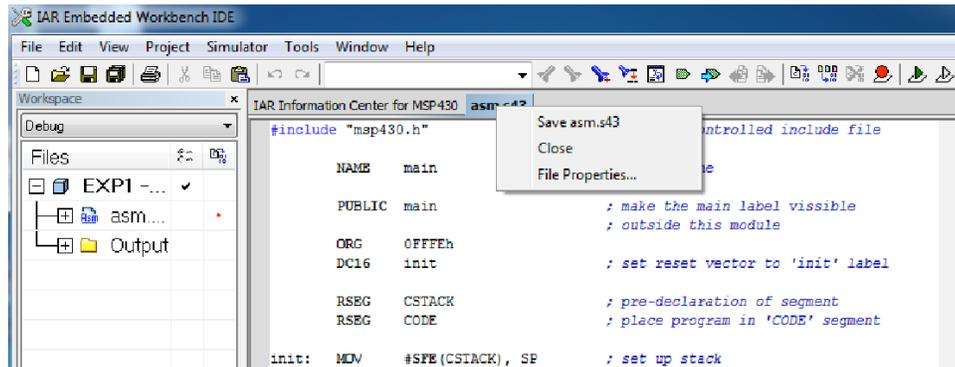

Figure 1.7: Closing asm.s43 tab.
- Right click the 'asm.s43' tab and choose 'Close' in order to close it. The only reason we are asking you to close this tab is to eliminate the possibility of confusion when you are looking at the different opened files that are available for you to see. You could choose to keep the tab open if you want, but the rest of the lab assumes it has been closed. We will be assigning a '.asm' extension to our assembly language file as opposed to the default '.s43' in the IAR Embedded Workbench. Although we closed the '.s43' tab, the file is still shown in the project tree view located to the left of the screen. We will deal with this in the next step. Figure 1.7 illustrates the available actions when right clicking the 'asm.s43' tab.